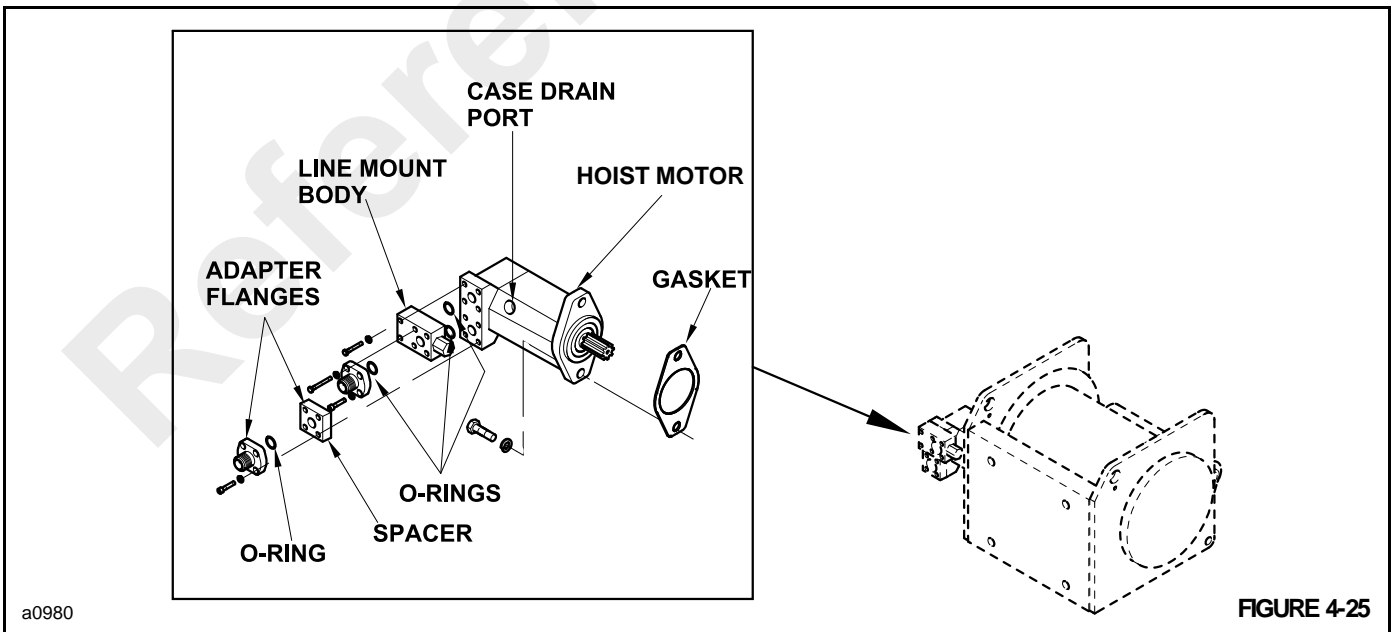

FIGURE 4-25
4. Remove hoses, fittings, the adapter flanges, spacer block and line mount body Figure 4-25 from the pump. Discard all O-rings. The Tulsa model is shown, but the Braden model is similar.
1. Install the line mount body Figure 4-25, spacer and adapter flanges to the hoist motor. Be sure to use new O-ring seals.
3. Fill the hoist motor with hydraulic fluid through the case drain port Figure 4-25 to the bottom of the fill plug with clean hydraulic oil.